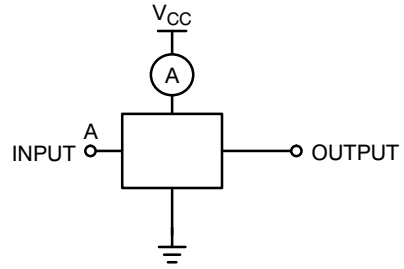

Figure 2. I_{CCD} Test Circuit
5. C_{PD} is defined as the value of the internal equivalent capacitance which is derived from dynamic operating current consumption (I_{CCD}) at no output loading and operating at 50% duty cycle (see Figure 2). C_{PD} is related to I_{CCD} dynamic operating current by the expression: I_{CCD} = (C_{PD}) (V_{CC}) (f_{IN}) + (I_{CCDStatic}).